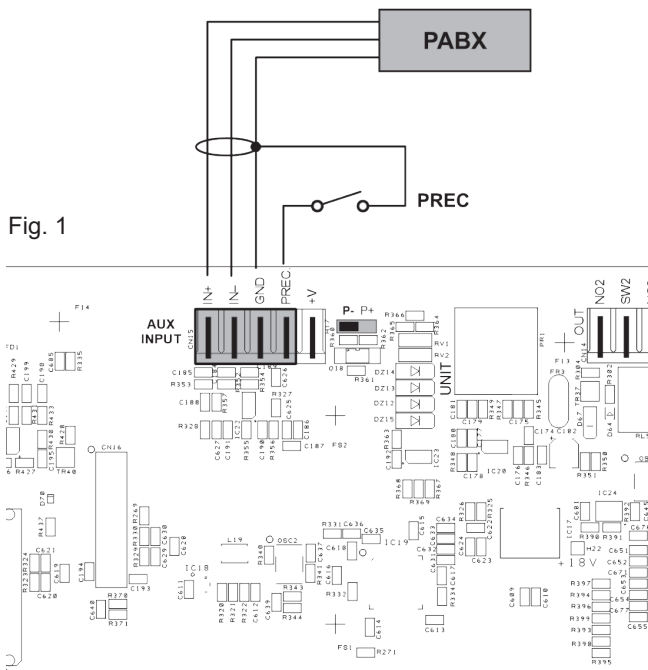
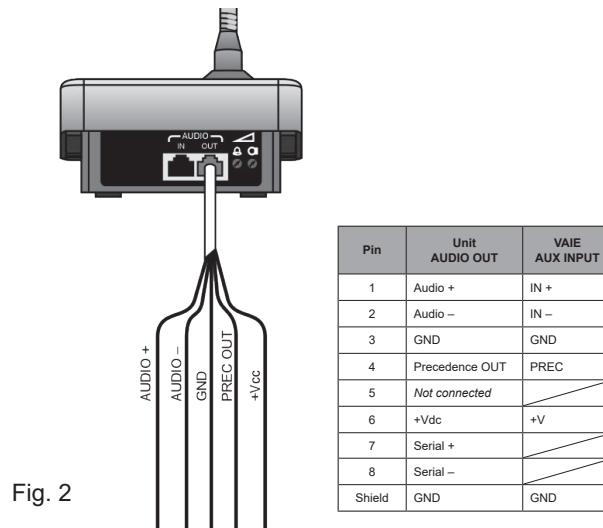

Fig. 1
Fig. 2
The **AUX INPUT** terminals (7) are available for connecting auxiliary sources (e.g. a PABX or a base for announcements with a precedence contact). In the first case, it is necessary to fit a jumper in position “P-” (see Fig. 1). In the second case, on the other hand, using a pre-amplified station of the MBT 1101 range, connection between the AUDIO OUT socket of the base and the AUX terminals has to be made as indicated in the table and the jumper will have to be positioned on “P+” (see (Fig. 2).